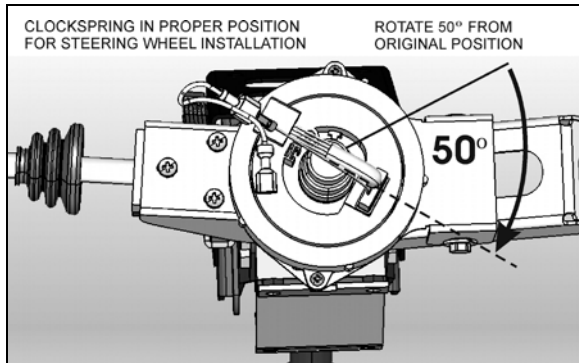

FIGURE 15: PROPER CLOCKSPRING POSITION
- Break the paper seal and rotate the center part of the clockspring about 50° clockwise (Figure 15). This step is necessary for the installation of the steering wheel.